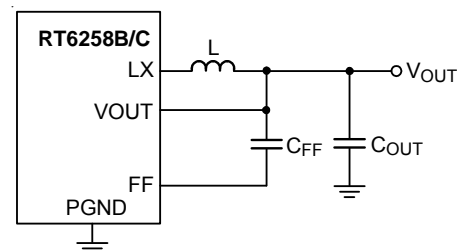
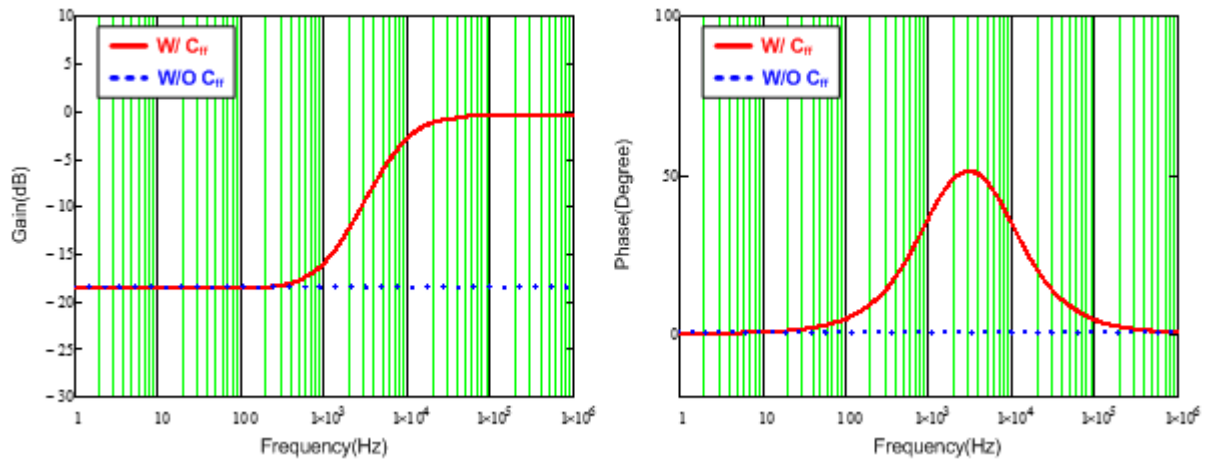

Figure 4. Feedback Loop with Feedforward Capacitor
Figure 5. Bode Plot with Different Feedback Loop Conditions
For saving time to design compensator and reducing the layout area through external components, the components of compensator are integrated in IC. However, this integrated compensator might not suit to every load transient spec. Hence, for the RT6258B/C to be more adaptable, the feedforward capacitor CFF is used in the feedback loop to improve transient response, as shown in Figure 4. Figure 5 shows the comparison result of bode plot with different feedback loop conditions. Referring to Figure 5, through connecting a CFF in feedback network, the gain and phase are raised in mid-frequency that not only can extend the bandwidth, but boost the phase margin as well. Moreover, there is also a high frequency pole to eliminate high frequency noise. Consequently, those features of feedforward feedback network allow the RT6258B/C have faster response to handle different load transient.
Observing Figure 5, the maximum phase boost occurs between zero and pole frequencies that is defined as maximum phase boost frequency, as expressed in equation (4). Hence, in order to achieve the maximum phase boost by adding  $C_{FF}$  in the RT6258B/C, the system's original bandwidth has to be located at maximum phase boost frequency.